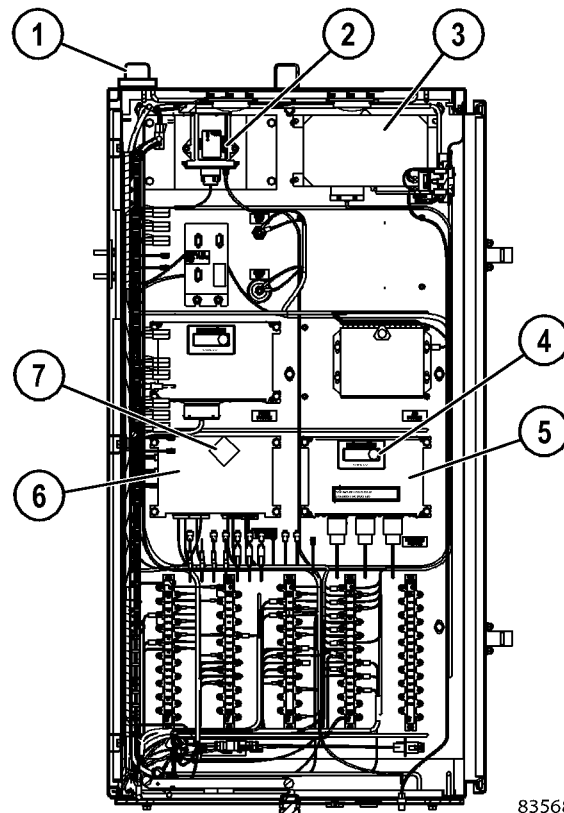
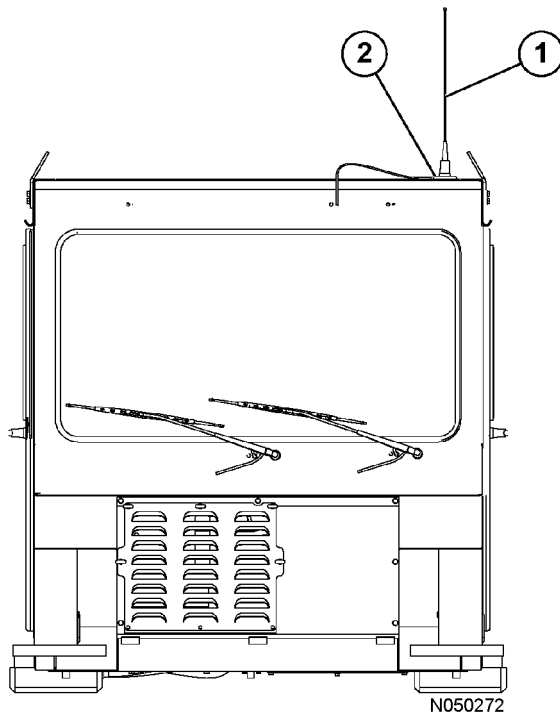

FIGURE 32-11. KOMTRAX PLUS COMPONENT LOCATION
FIGURE 32-12. ORBCOMM ANTENNA
This system uses KOMTRAX Plus controller (formerly known as VHMS) (6, Figure 32-11) to gather data about the operation of the truck from sensors and other controllers installed on the truck. The data stored in KOMTRAX Plus is collected by a laptop personal computer (PC) or transmitted directly by communications satellite (utilizing the ORBCOMM controller). This data is then compiled at the Komatsu computer server. Based on this information, the servicing Komatsu distributor will suggest improvements and provide information aimed at reducing machine repair costs and downtime.
The KOMTRAX Plus system is turned on by the truck key switch. Immediately after receiving 24V power from the key switch, the KOMTRAX Plus controller begins the power-up initialization sequence. This sequence takes about three seconds, during which time red LED digits (7, Figure 32-11) display a circular sequence of flashing LED segments.
ORBCOMM controller (3, Figure 32-11) transmits data through antenna (1, Figure 32-12) mounted on top of the cab. The antenna coaxial cable is routed through the inside of the cab to protect it from damage. If the antenna or coaxial cable is damaged, replace the parts.
Interface module (5, Figure 32-11) receives data from the sensors installed on the truck and sends this information to the KOMTRAX Plus controller. There is a small green LED light on the face of the controller. With the key switch ON, the light must be blinking. If the light is continuously illuminated, there is a problem in the controller.
The Komatsu wireless bridge (2, Figure 32-11) allows for the transfer of information from the KOMTRAX Plus controller to a laptop computer with wireless network capabilities. The information that is downloaded through the KWB (Komatsu wireless bridge) is the same information that is gathered during a manual download from the KOMTRAX Plus system. Downloads can be performed with the laptop computer located on or near a stationary truck, or the computer can be located close to a path of moving trucks. Total download time is approximately 10 seconds. If only a portion of the data is downloaded while the truck is passing by a laptop computer, the remaining information will be downloaded the next time a data download occurs.